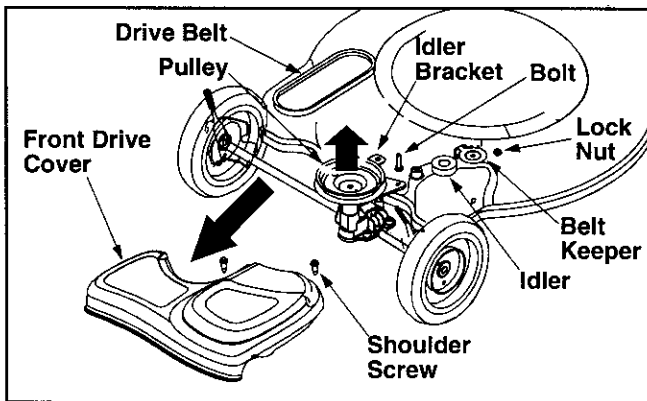

Figure 14
- Remove the two shoulder screws from on top of the deck which secure the front drive cover to the mower deck. See Figure 14.